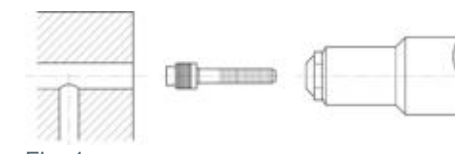

Fig. 1
- Insert the plug in the tool, ensuring that the sleeve is against the nosepiece (Fig. 1).